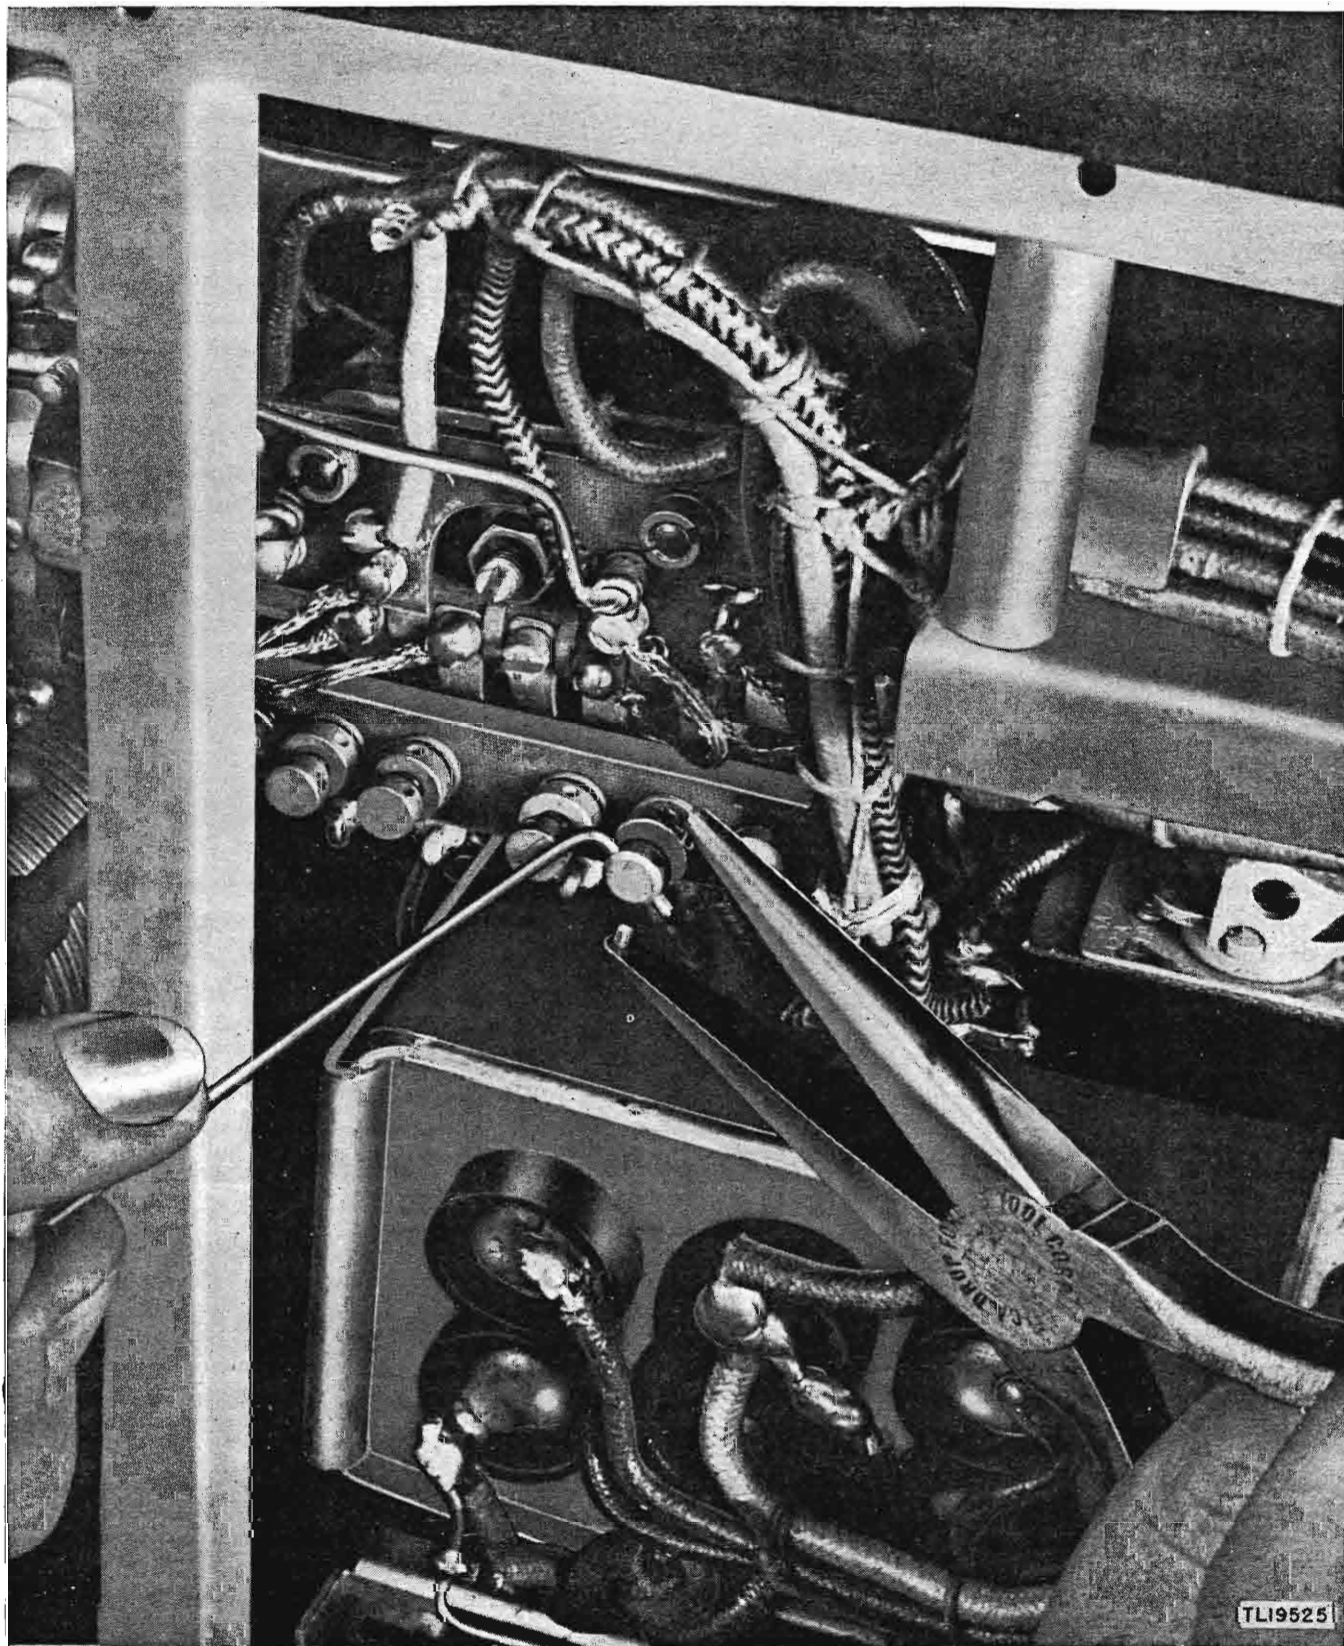
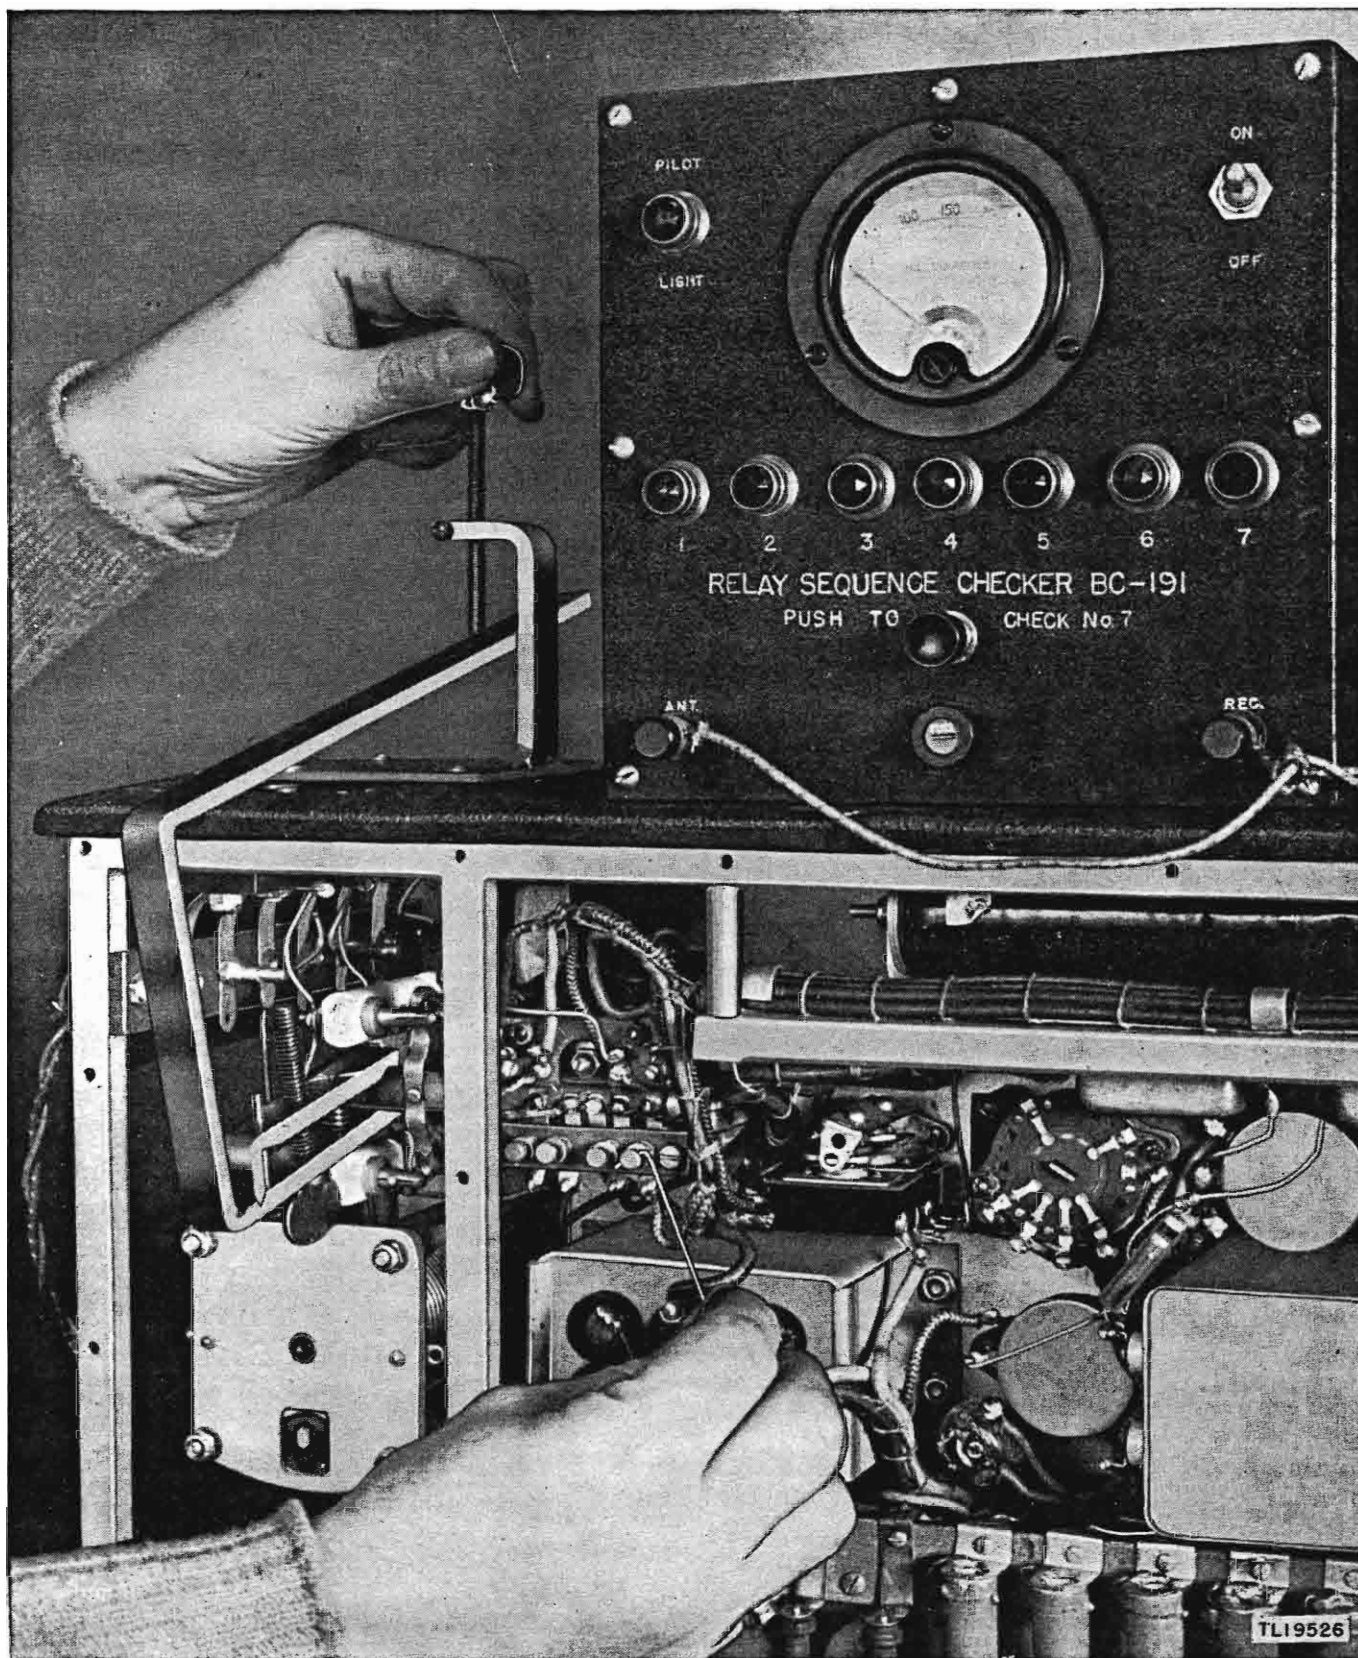

*Figure 21. Clamping pressure-arm attachment to relay.*
*Figure 22. Pressure-arm adjustment attachment in use.*
c. **CHECKING RELAY AND REPLACING DEFECTIVE PARTS.** (1) Take relay apart and examine it for defective parts such as bent armature, broken leads, cracked insulators, and bent, pitted, or worn contact points.
(2) Check the relay energizing coils for opens or shorts. Use the low-ohm scale of the ohmmeter for this check, since the approximate resistance of the relay coil is only 13 ohms.
(3) Replace any badly pitted or worn points or other defective parts.
(4) Clean all contact points with dry-cleaning solvent (SD) to remove any dirt or grease.
(5) After cleaning and replacing all defective parts, reassemble the relay and mount it in place on the transmitter.
(6) Replace all wires and circuit elements; be careful that they are put in the positions marked on the tags.
**TOTAL PL. CURRENT METER ACCURACY.** A simple type of tester that is very helpful in checking contact sequence of the relay and accuracy of the TOTAL PL. CURRENT meter on Radio Transmitter BC-191-(\*) is shown in figure 20. The pressure-arm attachment (fig. 20), when clamped to the relay (fig. 21), is used for operating the relay manually. By slowly pushing the pressure arm downward, the contacts of the relay can be closed one at a time. This slow action is necessary in order to check the closing of each individual contact by observing the test lights on the tester. The pressure-arm adjustment attachment (fig. 20) is mounted on the top panel of the transmitter and is used to operate the pressure arm so that a fixed pressure may be maintained, if necessary, when any adjustments have to be made on the relay contacts. The use of this attachment makes it possible to have both hands free for the adjustments. (See fig. 22.) If it is necessary to make adjustments on a number of relays, the pressure-arm adjustment attachment can be permanently mounted on a spare transmitter top panel. This can be used as a piece of the test equipment and will save considerable time in mounting and unmounting the adjustment plate. Along with this dummy top panel, a dummy antenna terminal board (fig. 20) can be made to use with the test equipment. Figure 25 gives the dimensions of the suggested pressure arm and pressure-arm adjustment attachments; the schematic diagram of the suggested sequence tester is shown in figure 26. The long-nose pliers (fig. 23) are made by drilling the tops and inserting small points to fit the holes in the relay-contact locknuts; the angle tool for making the contact adjustments is a piece of piano wire. Any arrangement that will satisfactorily do the work may be used for these adjustments. To connect and operate the tester, proceed as follows:
(1) Remove all plugs and cables from transmitter.
(2) Remove top and rear panels from transmitter.
(3) Connect Plugs PL-64 and PL-61 on tester to corresponding sockets on the transmitter. High voltage is not used with the tester.
(4) Connect a jumper between LOAD B and GND. terminals on transmitter-output terminal board.
(5) Connect a jumper between the common arm of SIDE TONE switch and chassis.
(6) Connect leads from ANT. and REC. terminals on transmitter-output terminal board to respective posts on tester.
(7) Clamp pressure-arm attachment on relay. (See fig. 21.)
(8) Connect sequence tester to 110-volt a-c. and turn the OFF-ON switch on the tester to ON; this should light the panel pilot lamp.
(9) Operate pressure-arm attachment slowly, and at the same time observe test lights 1 to 7, inclusive, for proper sequence operation. Use push button on tester to operate test light 7.